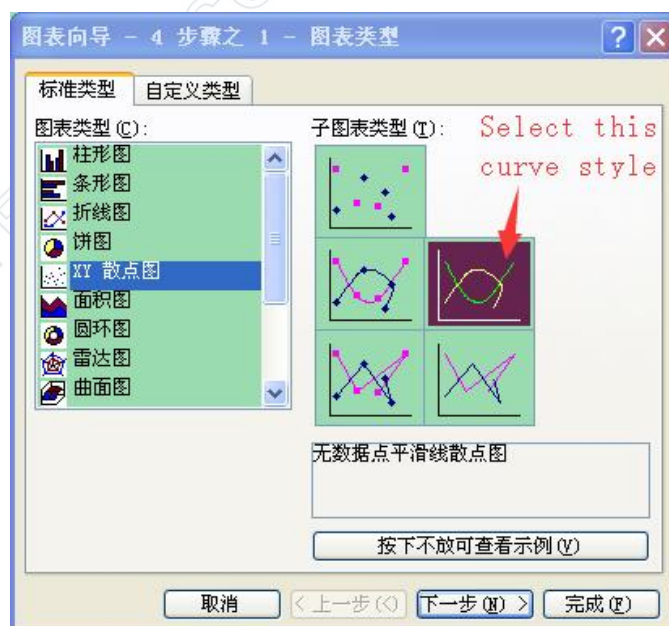

Fig. 13
- Click on chart icon and select chart type as shown in Fig.13.